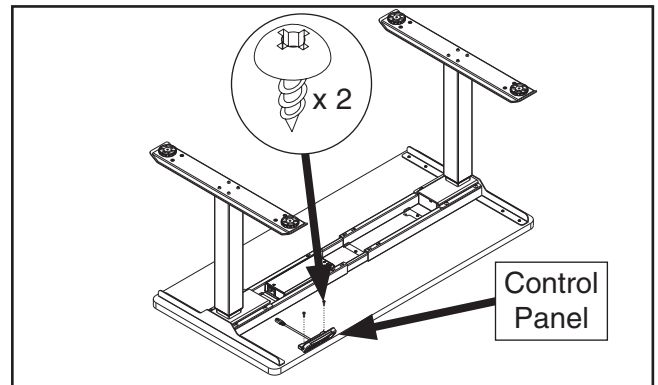

Figure 8. Installing control panel.
8. Install control panel on right-hand side of table (see **Figure 8**) with (2) 4.2 x 19 tap screws.